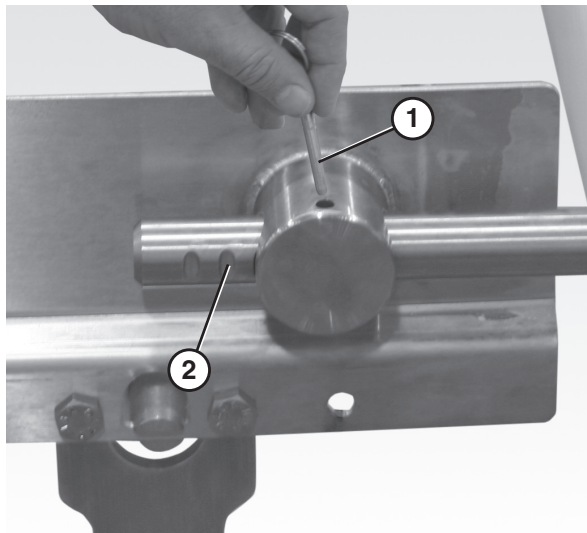

Figure 66
1. Remove both pull pins (Figure 66, item 1) on the tension end of the conveyor.
2. Extend the idler tail to the next groove (Figure 66, item 2) on the bearing shaft.